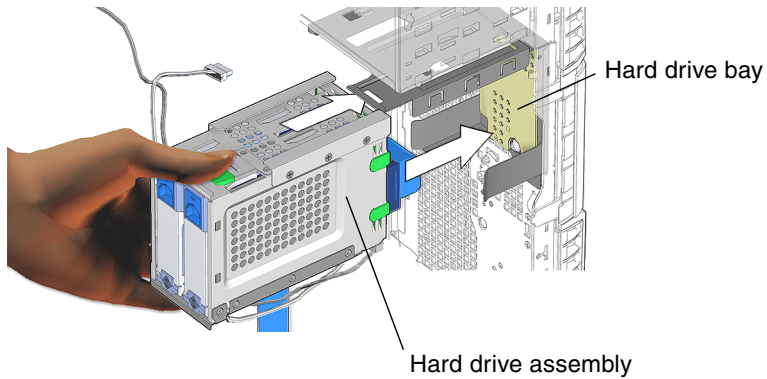

FIGURE 14-17 Installing the Hard Drive Assembly
4. **Install the hard drive assembly into the hard drive bay (FIGURE 14-17).**